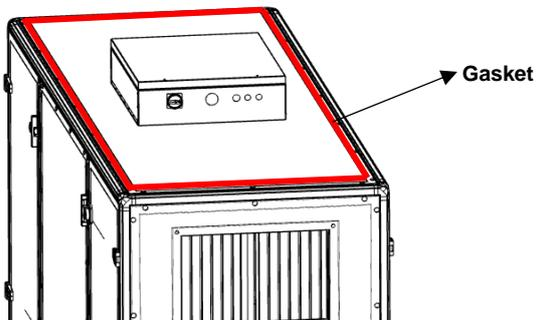

Fig. 122
2. Apply the gasket on the top of the unit (Fig. 122)